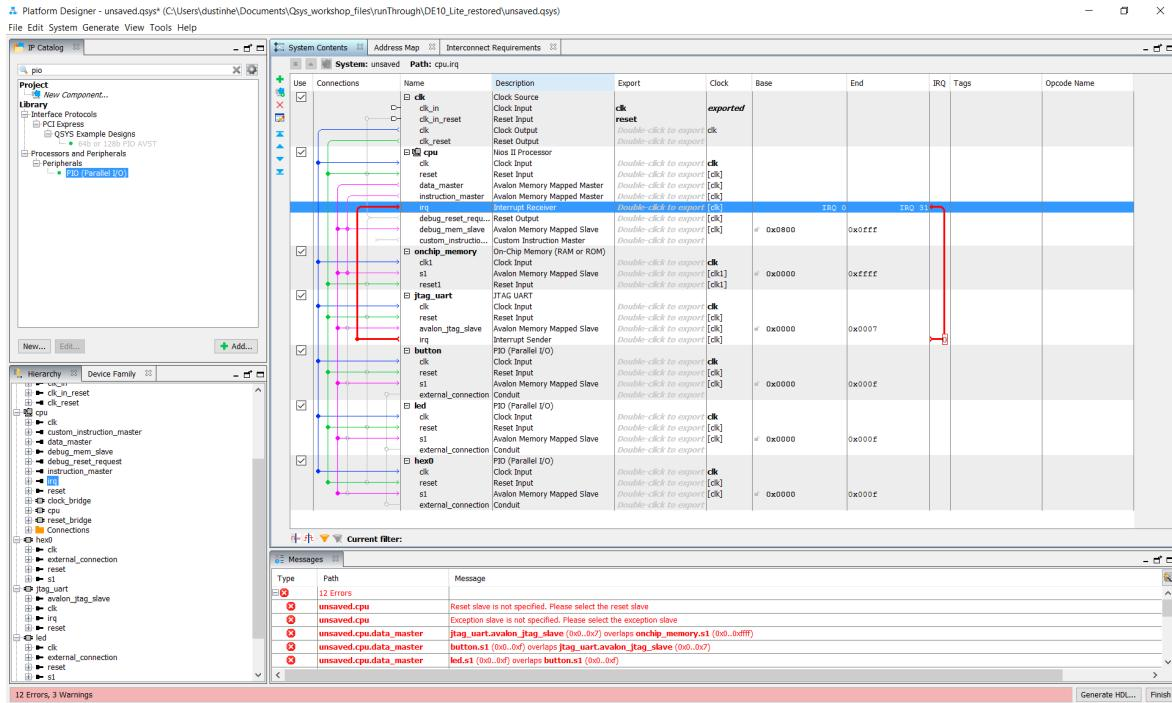

Figure 23: System Contents After Interrupt Connections
- The next connections to make are the processor interrupt request (IRQ) signals. Make this connection as shown in Figure 23 by clicking on the empty bubble. We will use the default setting for the IRQ number.